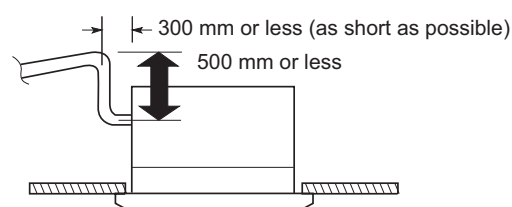

Fig. 2-186
- If it is necessary to increase the height of the drain pipe, the section directly after the connection port can be raised a maximum of 500 mm. Do not raise it any higher than 500 mm, as this could result in water leaks. (Fig. 2-186)